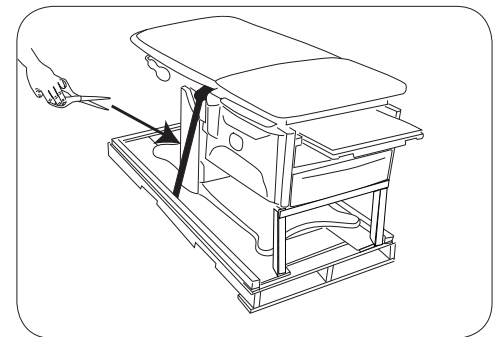

Figure 4. Cut Shipping Strap
- Cut the shipping strap, and discard strap and foam tube (Figure 4)..